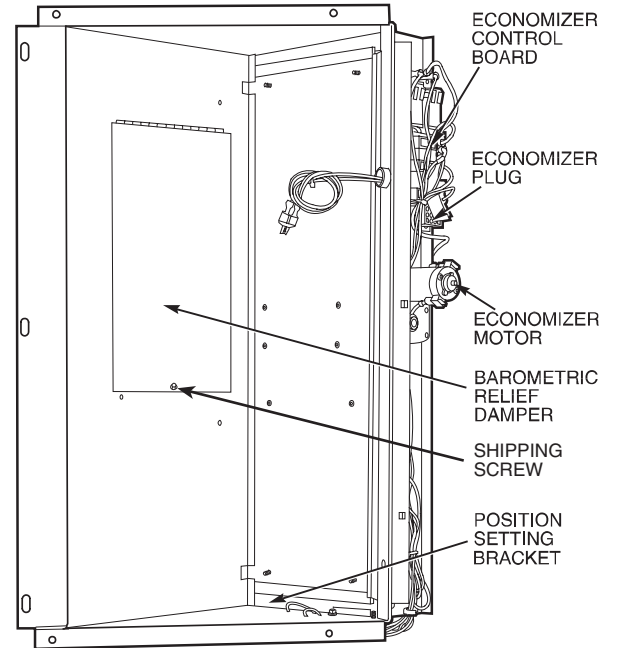

Fig. 15 — Horizontal Discharge Durablade Economizer Installation
- a. Rotate the economizer 90 degrees until the economizer motor faces the outdoor section (see Fig. 15).